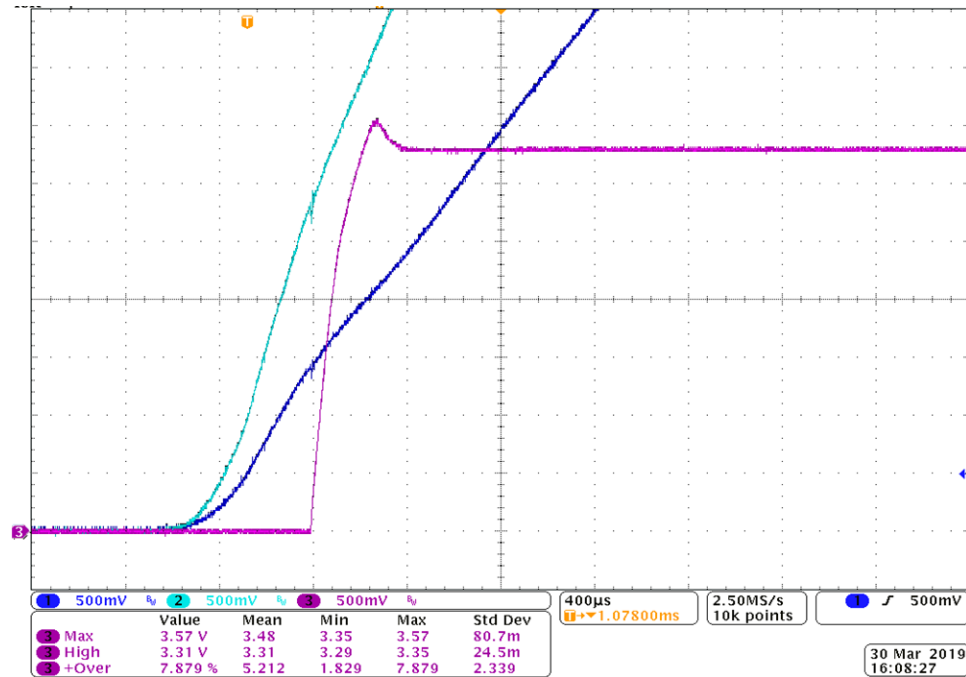
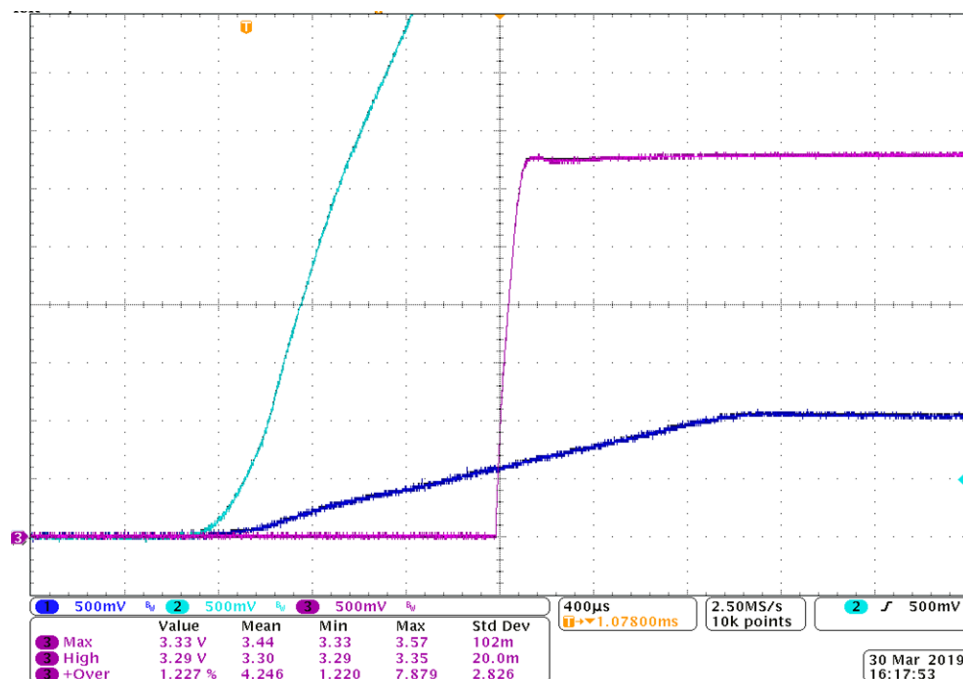

Figure 10. No Sequence With Overshoot
Figure 11. Add Sequence Without Overshoot
- Sequence the V_{IN} and V_{EN} signals to let the V_{IN} reach the required value before the LDO is enabled. The comparison is displayed in Figure 10 and Figure 11 (Green: V_{IN} ; Red: V_{OUT} ; Blue: V_{EN}). The V_{EN} signal is created using a resistor divider from the V_{IN} . $R1 = 10\text{ K}$ is close to the V_{IN} , $R2$ is close to the GND. In Figure 10 $R2 = 10\text{ k}\Omega$, and in Figure 11 $R2 = 1\text{ k}\Omega$.